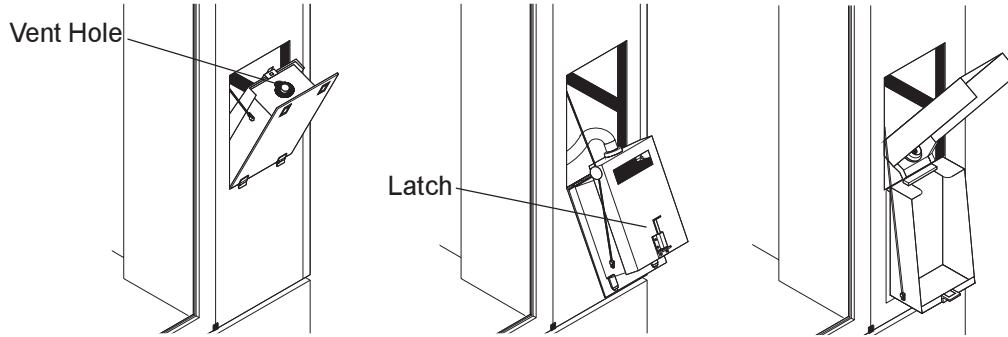

Figure 13. Auto Resin Refill System (SLA 3500, SLA 5000 & SLA 7000)
- 1. Open the resin refill door (Figure 13) until the vent hole, on the upward end of the bottle, is visible.**